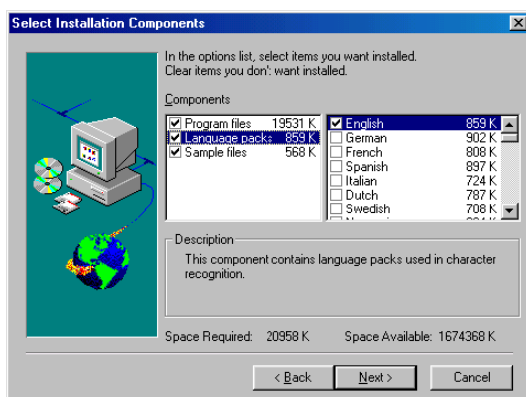

Figure 9: Selecting the languages
- Click on 'Next' to continue with the installation. Figure 9 will appear.
- Click on 'Language packs' to select the languages to use (Figure 9).